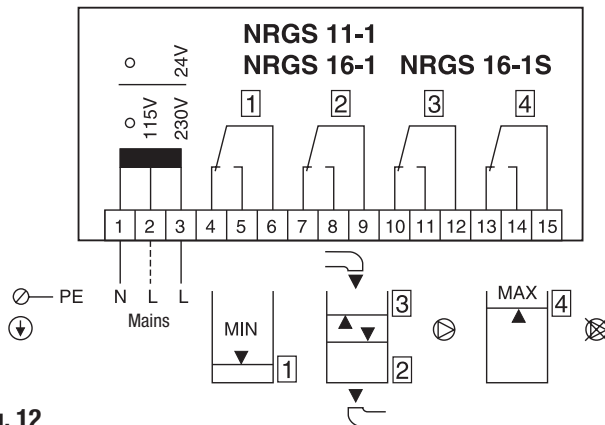

Fig. 12
1. Check whether the system has been wired according to wiring diagram **Fig. 12**.